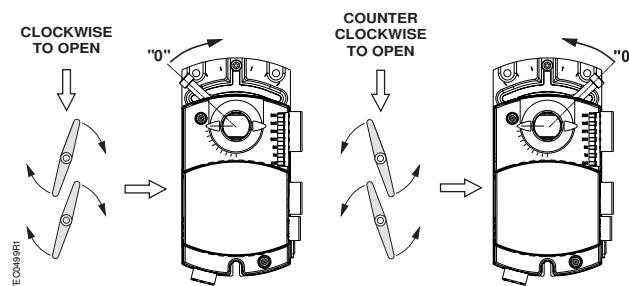

Figure 5. Damper Rotation.
- 2. Determine the damper blade rotation, clockwise or counterclockwise to open, Figure 5.